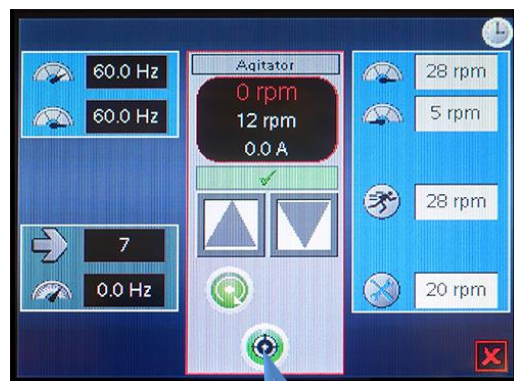
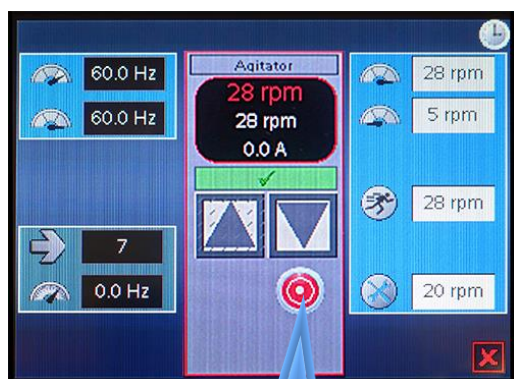
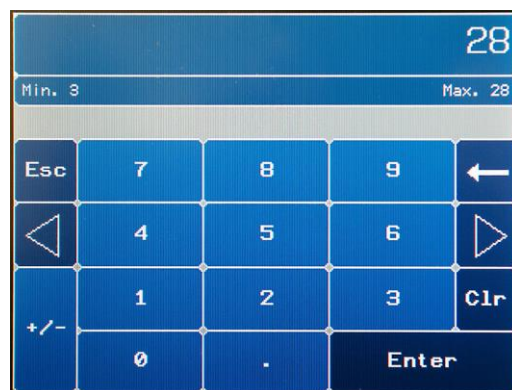

Figure 61
Figure 62
Figure 64
The Agitator has been calibrated in the factory. If calibration is required, press the **Calibration** button, Fig. 61. As soon as you press the **Calibration** button, measure the actual maximum user units of the Agitator, then press on the **Agitator Test Stop** button, (Fig. 62), after which a popup window will appear, Fig. 63. Press on the **Measured Maximum User Units** (black numbers, white background) inside the popup window, after which a keyboard will appear Fig. 64. Enter the **Measured Maximum User Units** and press **Enter** on the keyboard. Press the **Exit** button on the popup window to exit without changes.
6. When the water boils, press the **Cook Stop** button) (Square), Fig. 62, and it will revert to **Stop** with green background.